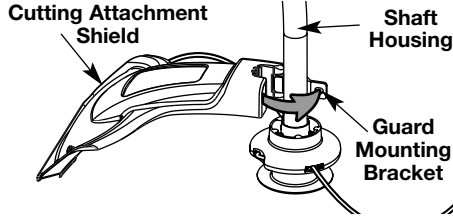

Fig. 1
1. Place the cutting attachment shield onto the shaft housing. Be sure the guard mounting bracket slides into the slot on the edge of the cutting shield. Rotate the shield into place, counterclockwise. The holes in the guard mounting bracket and cutting attachment shield will line up (Fig. 1).